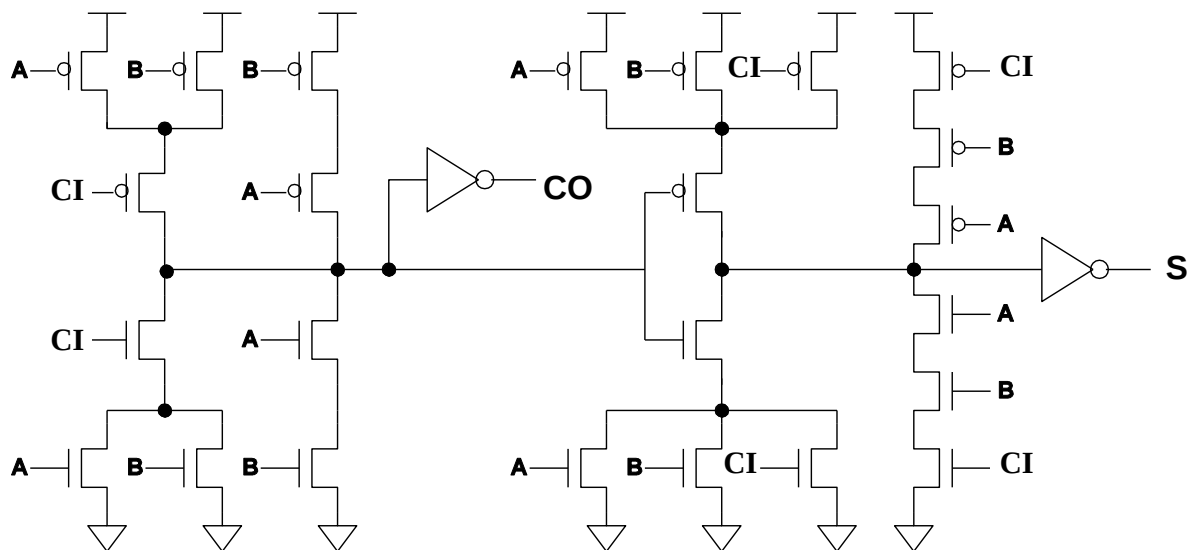

Fig.1 Full Adder Schematic
In this lab, you will draw another 4-bit ripple carry adder (RCA) layout using the full adder (FA) as shown in Fig.1. First, draw the stick diagram for this FA, and then create the cell using Cadence. Then, using four FA cells, design a 4-bit RCA. Make sure that the labels of this RCA are A0~A3, B0~B3, CI, S0~S3, and CO.
2. Draw Full Adder circuit referred to Figure 1.
2. Draw 4-bit RCA circuit referred to Figure 1 of the last lab(lab 4).